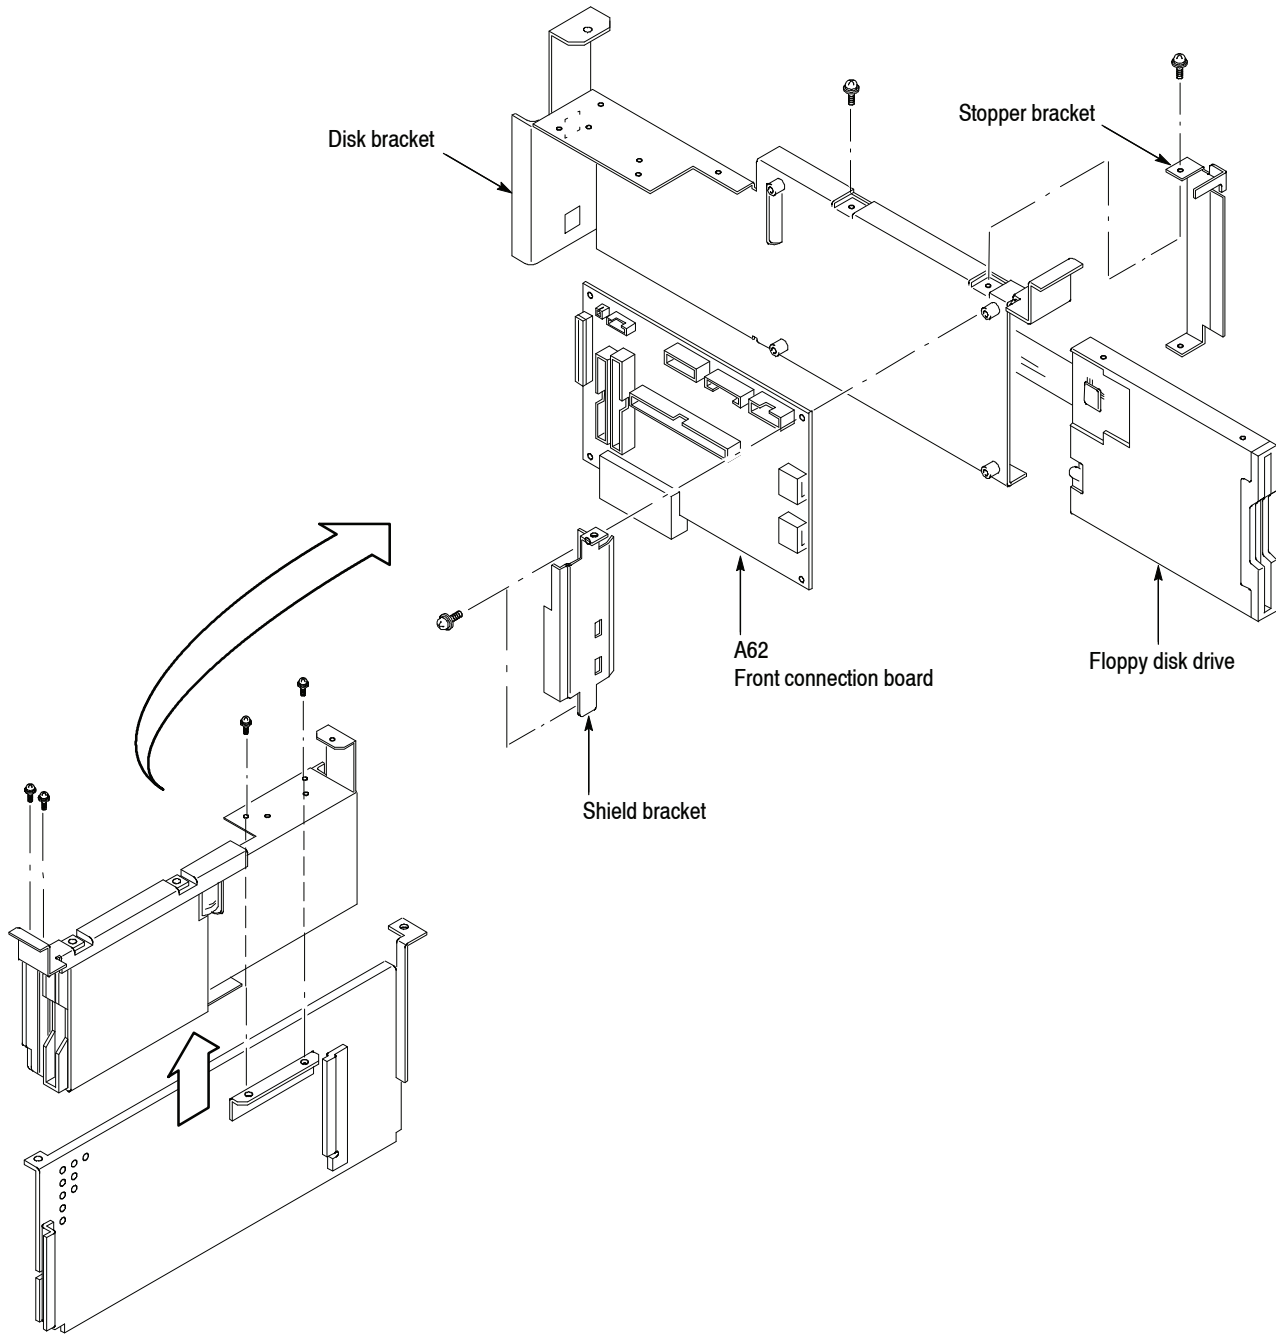

Figure 5-21: Disk unit removal
8. *Remove the disk unit:* See Figure 5-21.
9. *Remove the floppy disk drive:* See Figure 5-21.
10. *Remove the A62 Front connection board:* See Figure 5-21.